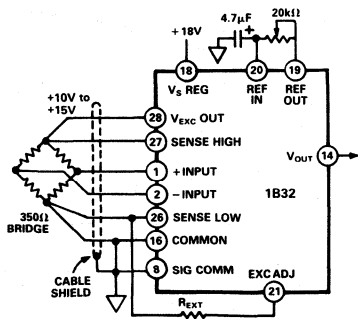

Figure 4. Constant Voltage Excitation: +10V to +15V Range.
**Voltage Excitation Programming:** The excitation voltage is preset to +10V. To increase  $V_{EXC}$  up to +15V a resistor must be connected between EXC ADJ and SENSE LOW (Pins 21 and 26) as shown in Figure 4.